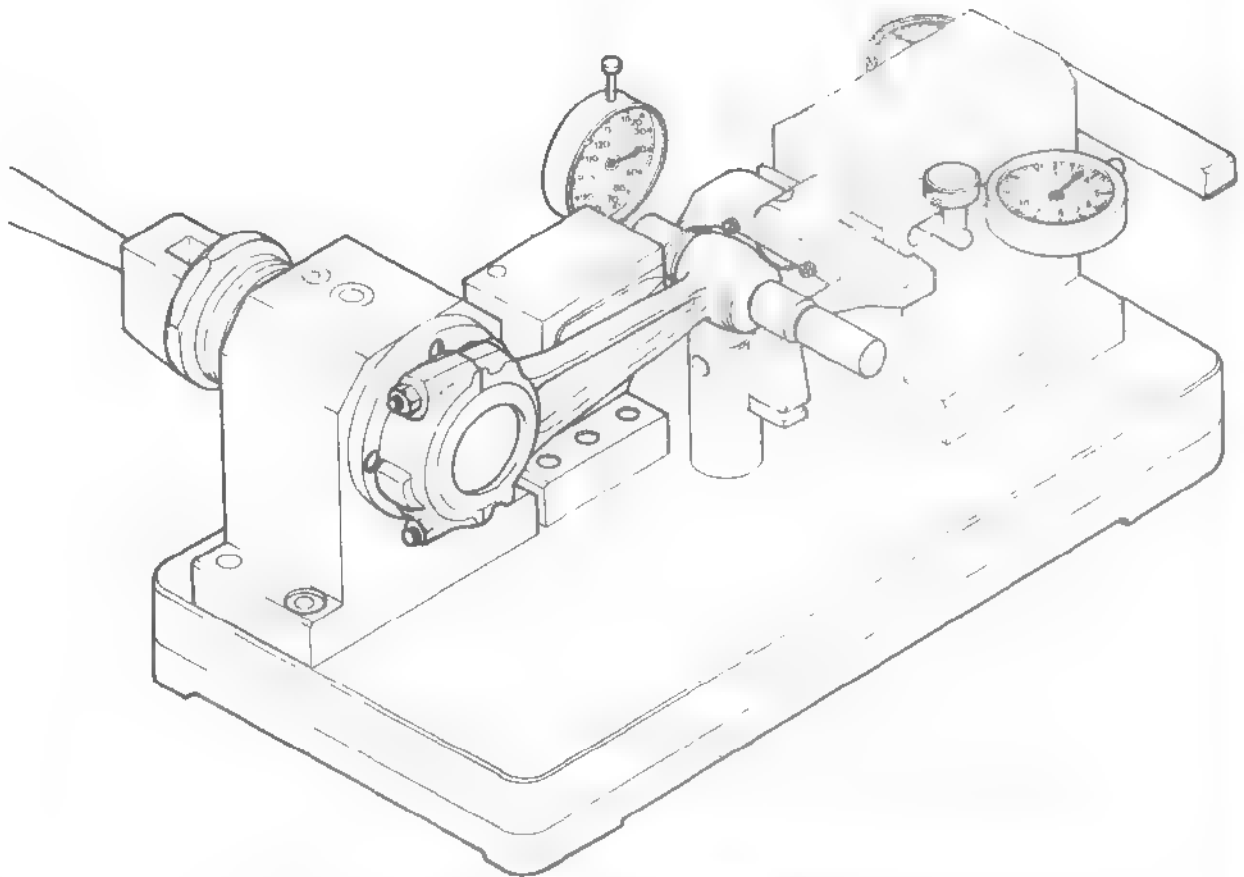

Fig. 4.64. CHECKING TWIST, FLEXURE AND LENGTH OF PISTON ROD BY MEANS OF V-6 CHECKER.
- Check by means of V 6 checker if axes of small & big-end bores are coplanar and parallel (see Fig. 4.64). If deviation caused by twist or flexure exceeds the priorly indicated limits, the piston rod should be straightened, or, if not possible, replaced.
b) CLEANING & CHECKING PISTONS (Fig.4.64).